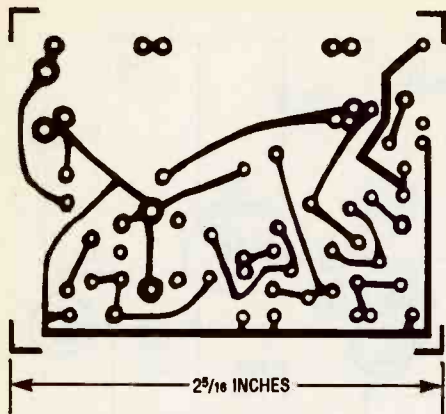

Fig. 4. This is a full-size template of the receiver's printed-circuit board.
Fig. 4. You will have to wire an appropriate cable to the Ring Converter depending on whether you will use it with a nearby phone (A), or in a remote location as an annunciator (B).